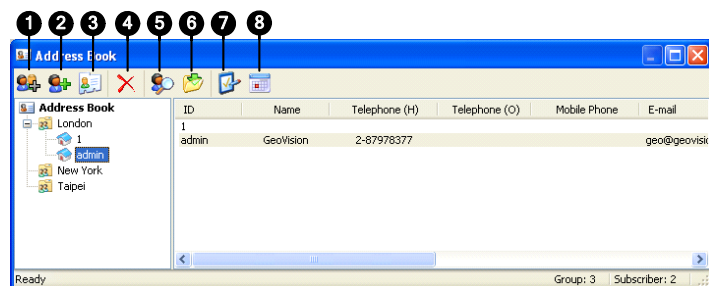

Figure 1-2
1. Click the **Add A Group** button (No. 1, Figure 1-2) to create a group.
2. Click the **Add A Subscriber** button (No. 2, Figure 1-2). The Subscriber Address Book dialog box appears.
6. The options in the dialog box are discussed below. You may accept the default settings here, and edit them later by clicking the **Subscriber Settings** button (No. 6, Figure 1-2) on the toolbar. When you click **OK**, the subscriber account then is created.
- Highlight one subscriber, and click the **Subscriber Schedule** (No. 7, Figure 1-2) to display the Schedule window.